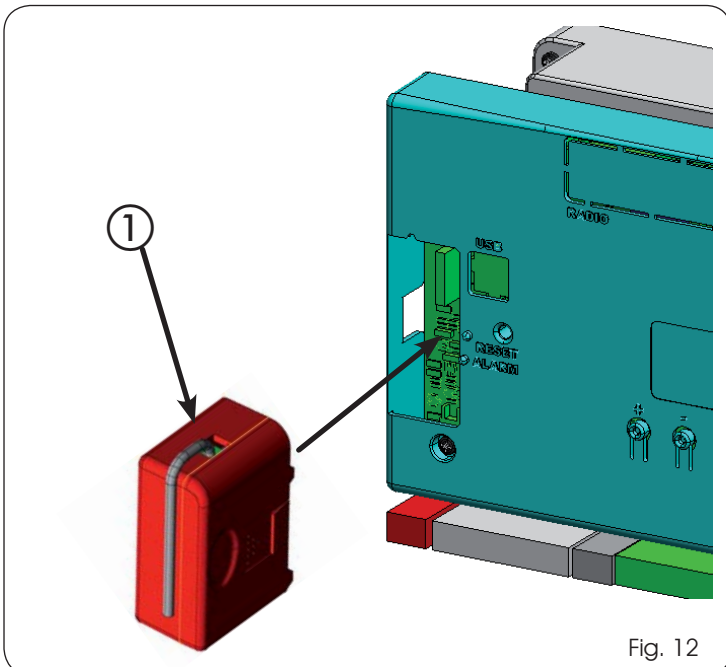

Fig. 12
The control unit has an integrated 2-channel decoding system (DS, SLH, LC/RC) named OMNIDEC. This system makes it possible to save – through an extra receiver module – F433 or XF868 (Fig.12 ref.①) – radio commands of the same frequency, but of a different type (DS, SLH, LC/RC). It is possible to save both total opening (OPEN A) and partial opening (OPEN B) of the automated system, up to a maximum of 256 channels.